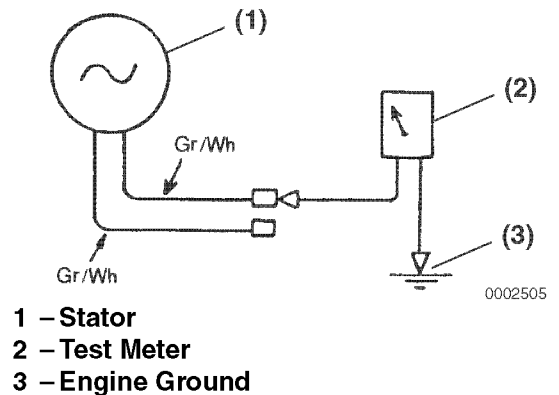

Figure 9-9
1. Disconnect the stator leads from the regulator / rectifier (**Figure 9-9**).